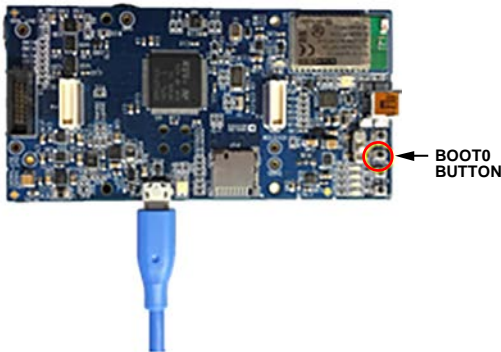

Figure 6. MicroUSB Connection and BOOT0 Button Used When Upgrading Firmware
2. Plug in a microUSB cable between the EVAL-ADPDUZ and the PC with the power to the EVAL-ADPDUZ turned off (see Figure 6).
3. Press and hold the **BOOT0** button, and switch the power switch to the **ON** position (see Figure 6).